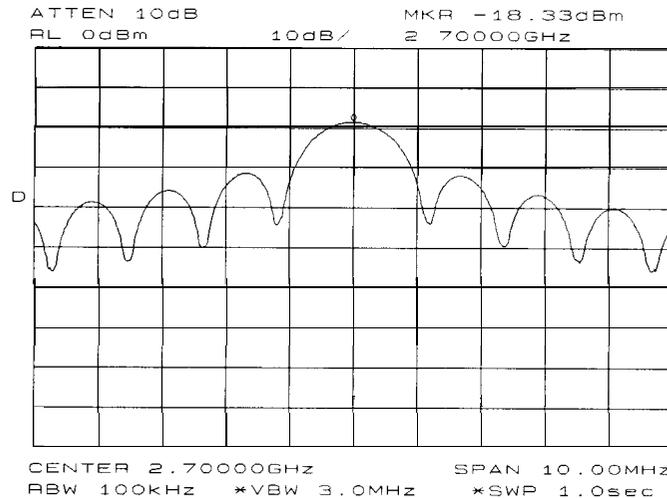

Figure 2-83. Center Frequency at Center of Main Lobe
1. For a pulsed RF signal, the center frequency is at the center of the main lobe (see Figure 2-83). To identify this frequency, simply use the spectrum analyzer peak search function. The marker also reads the main lobe amplitude.